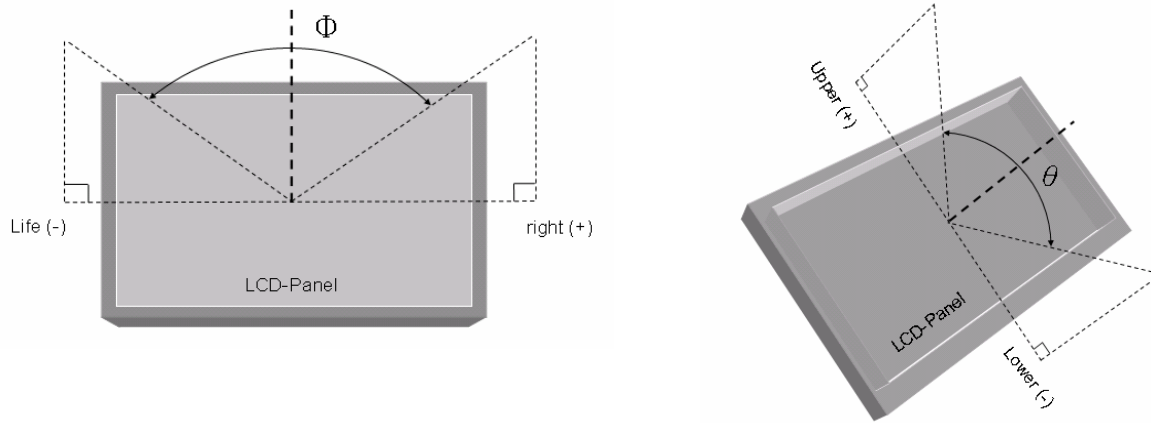

Fig.2 Definition of Viewing Angle
*3) Definition of Viewing Angle(θ,ψ),refer to Fig.2 as below :